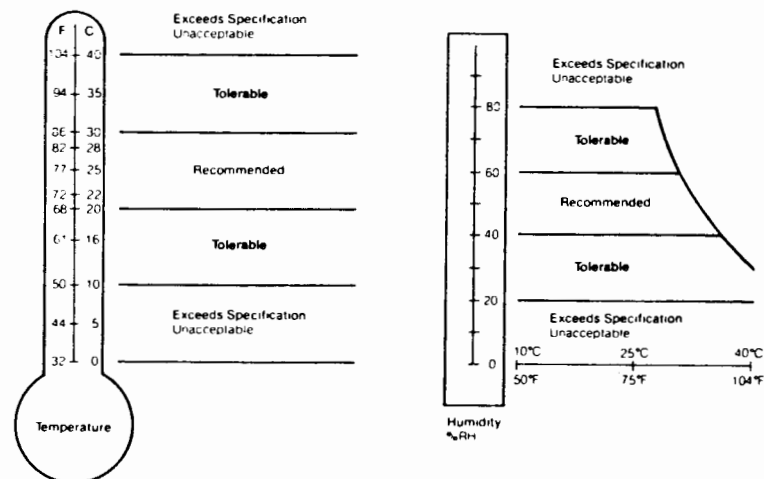

Figure 2-1. Temperature and Humidity Requirements
2. Operating temperature and humidity requirements are shown in Figure 2-1.